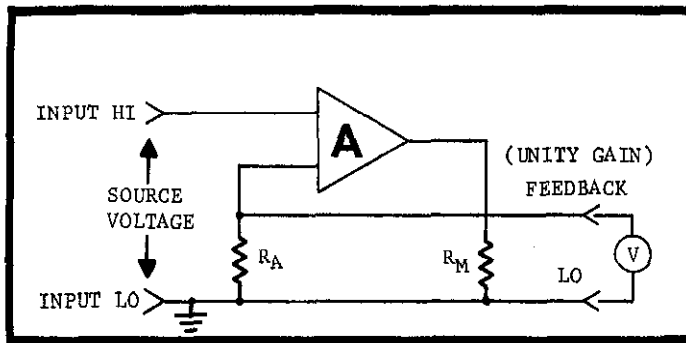

FIGURE 7. Use of FEEDBACK Connection.
4. Unity Gain Measurements. The Model 640 can be used for measuring a potential from a very high impedance source with .025% accuracy. Connect a digital voltmeter (or differential) to FEEDBACK and LO terminals as shown in Figure 7.